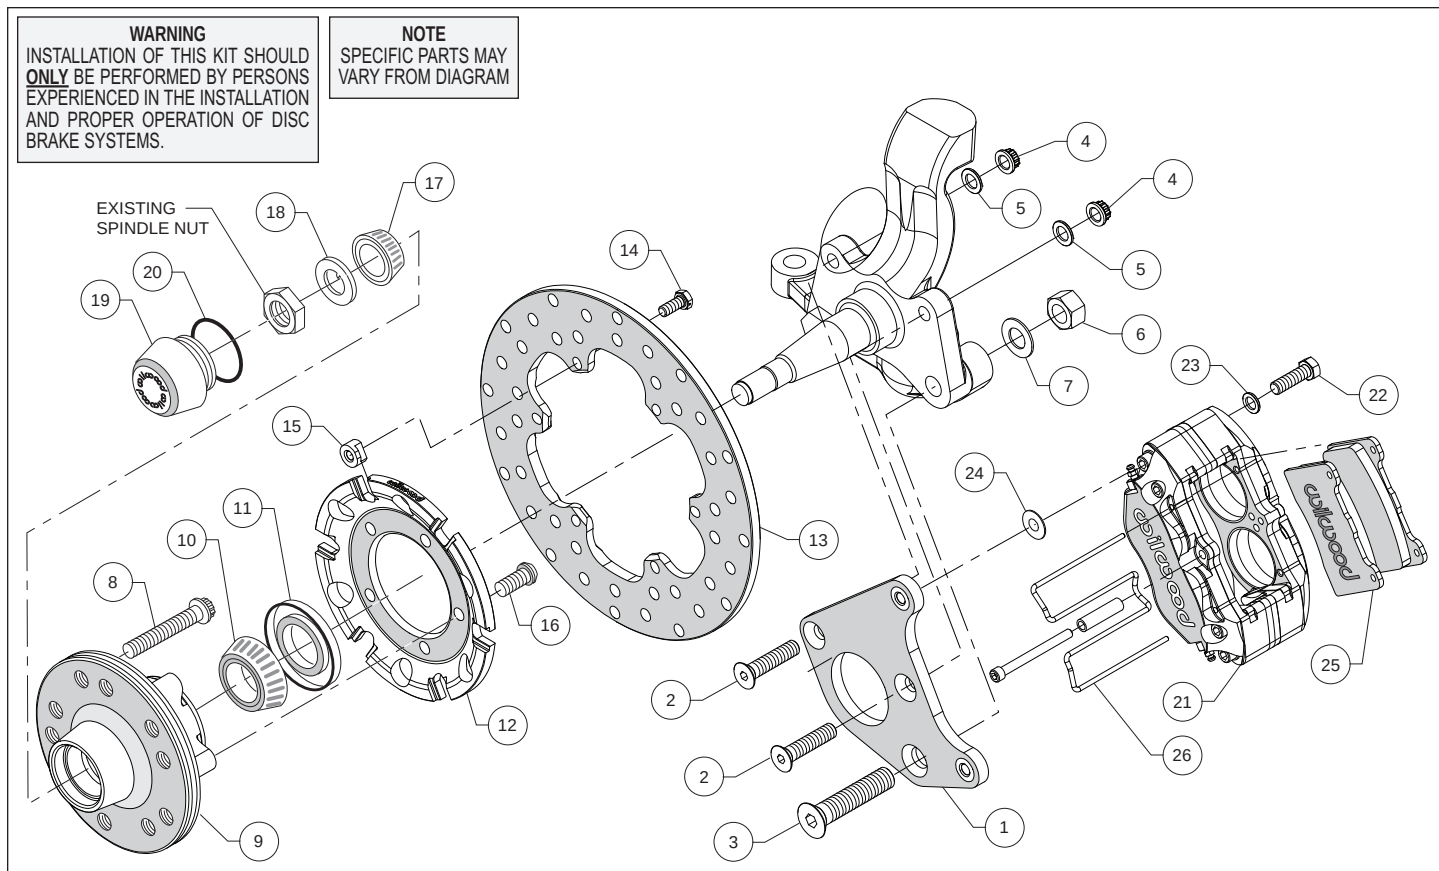
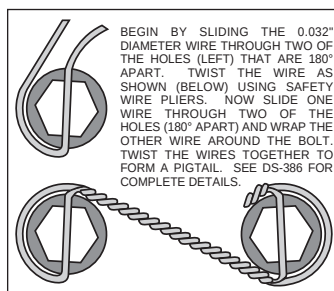
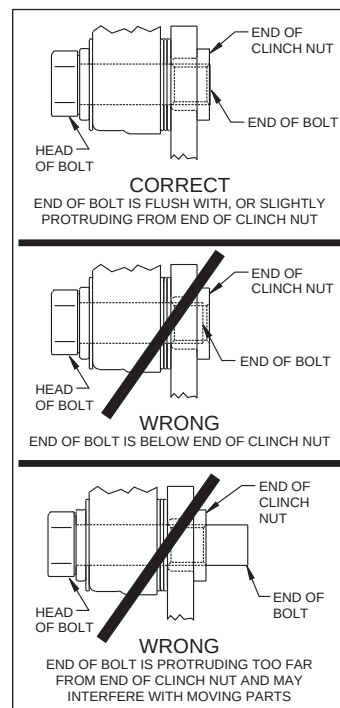

Figure 1. Typical Installation Configuration
Figure 3. Safety Wire Diagram
Figure 4. Clinch Nut Engagement Diagram
Assembly Instructions (numbers in parenthesis refer to the parts list, on the preceding page and Figure 1): **CAUTION:** All mounting bolts must fully engage clinch nuts. Be sure to check that all bolts are either flush or protruding through flanged side of clinch nut after shimming, Figure 4.
- Orient the caliper mounting bracket (1) as shown in Figure 1 and Photo 1. Attach using bolts (2 and 3), nuts (4 and 6) and washers (5 and 7), Figure 1. Temporarily tighten the mounting bolts. Ensure that the flanged heads of the clinch nuts in the bracket are facing outboard, Photo 1. **NOTE:** The bracket must fit squarely against the mounting points on the spindle. Inspect for interference from casting irregularities, machining ridges, burrs, etc. Torque nuts (4) to 47 ft-lbs and nut (6) to 140 ft-lbs.
- Orient the rotor (13) and the rotor adapter (12) as shown in Figure 1 and Photo 4. Attach the rotor to the adapter using bolts (14) and T-nuts (15). Using an alternating sequence, apply red *Loctite*® 271 to the threads, and torque to 120 in-lb. Safety wire bolts using standard 0.032 inch diameter stainless steel safety wire as shown in Figure 3. Refer to Wilwood's data sheet DS-386 (available at www.wilwood.com/Pdf/DataSheets/ds386.pdf) for complete safety wire installation instructions.
- Mount the adapter/rotor assembly (12 and 13) to the hub (9) using bolts (16), as shown in Figure 1 and Photo 5. Using an alternating sequence, apply red *Loctite*® 271 to the threads, and torque to 45 ft-lb.
- Pack the small outer bearing cone (17) with high temperature disc brake bearing grease and install into hub (9). Slide the hub/rotor assembly onto the spindle. Secure using spindle washer (18) and OEM spindle nut, Photo 6. Install saved OEM nut lock (if any) and a new cotter pin (not included). Bearing adjustment: Tighten the nut while turning the hub. When there is a slight bind on the bearings, they are seated correctly. Back the nut off about 1/6 to 1/4 of a turn, or sufficiently to allow .001" to .007" end play. **WARNING:** Failure to back off adjusting nut could cause bearing to run hot and be damaged, which could cause the wheel to lock or come off.
- Screw dust cap (19) into hub (9), Photo 7. Friction created by the o-ring (20) on the dust cap keeps it from unscrewing. **NOTE:** The O.D. of the existing OEM spindle washer may be larger than the I.D. of the dust cap not allowing it to seat against the hub face. Therefore, use the spindle washer (18) supplied with the kit instead of the OEM washer.
- NOTE:** Please reference the caution statement at the beginning of the assembly instructions. Mount the caliper (21) onto the caliper mounting bracket (1) using bolts (22) and washers (23), as shown in Figure 1. Initially place one .035" thick shim (24) on each bolt between the caliper and the bracket, Photo 8. Temporarily tighten the mounting bolts and view the rotor (13) through the top opening of the caliper. The rotor should be centered in the caliper, Photo 9. If not, adjust by adding or subtracting shims (24) between the bracket and the caliper. Always use the same amount of shims on each of the two mounting bolts. **NOTE:** The end of each bolt must be flush with or slightly protruding from the head of the clinch nut, as shown in Figure 3. If necessary place spare shims between washer (23) and caliper mounting ear to achieve the proper clinch nut engagement. Once the caliper alignment and clinch nut engagement are correct, remove the bolts one at a time, apply red *Loctite*® 271 to bolt threads, and torque to 40 ft-lb. For an added measure of security, the bolts may be safety wired using standard 0.032 inch diameter stainless steel safety wire as shown in Figure 3. Refer to Wilwood's data sheet DS-386 (available at www.wilwood.com/Pdf/DataSheets/ds386.pdf) for complete safety wire installation instructions.
- Install the disc brake pads (25) into the caliper, with the friction material facing the rotor (13), Photo 10, and secure in place using pad retainer clip (26), Photo 11.